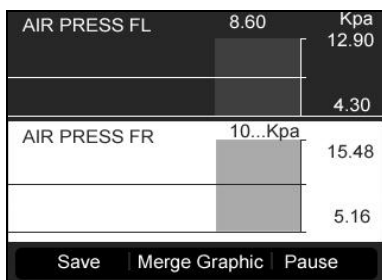
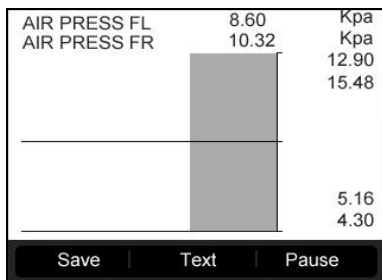

Figure 15.7
Figure 15.8
- When the sensor data is shown in graph, the tool offers two more options: **Two Graphic** and **Merge Graphic**. The first option can display two graphs on the same screen (Figure 15.7), and the last option can merge the two graphs into one. (Figure. 15.8)